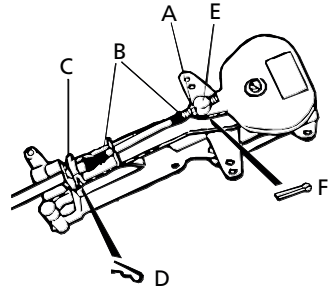

Fig. 6
- Remove the nut (A fig. 6) and both rubber seals (B fig. 6) from the cable.
- Push the cable through the bracket (C fig. 6)
- Secure the cable with the locking pin (D fig. 6)
- Connect the pivot to the throttle lever (E fig.6) and secure with the split pin. (F fig. 6)